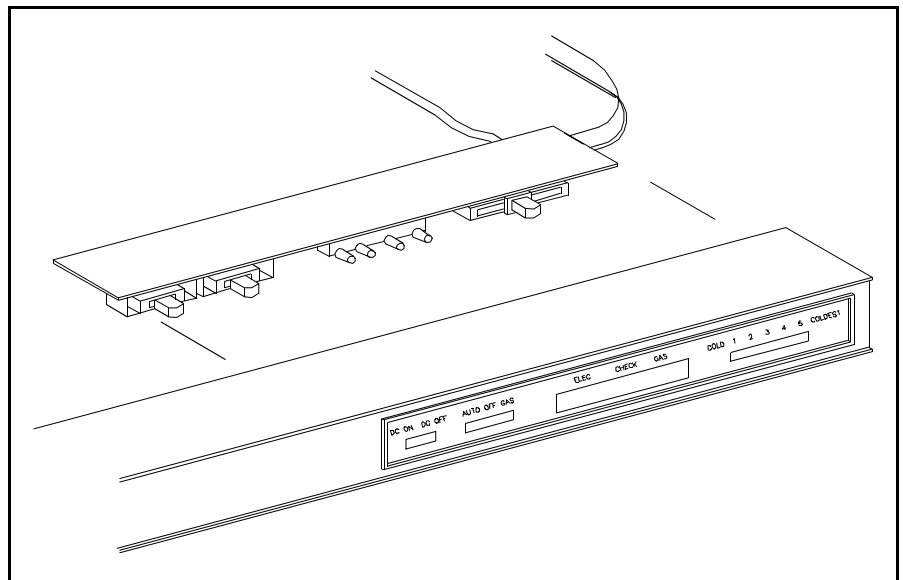

Figure 5.48 Eyebrow Board Removal
- Remove the Eyebrow board from the Eyebrow as shown by Figure 5.48.